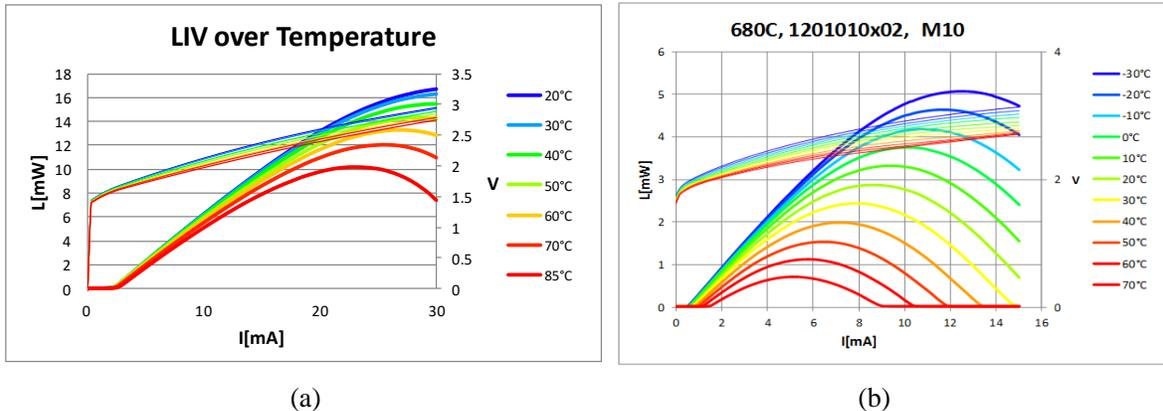

Figure 2: Light Output and Voltage versus Current (LIV) Over Temperature for (a) an 850nm multi-mode VCSEL and (b) a 680 nm multi-mode VCSEL.
Of course, the thermal rollover characteristics of a VCSEL will be dependent on the operating temperature. Examples of the LIV curves for (a) an 850nm multi-mode (MM) VCSEL and (b) a 680nm MM VCSEL are illustrated in Figure 2. It can be seen that as the temperature is increased, Pmax & Imax decrease.